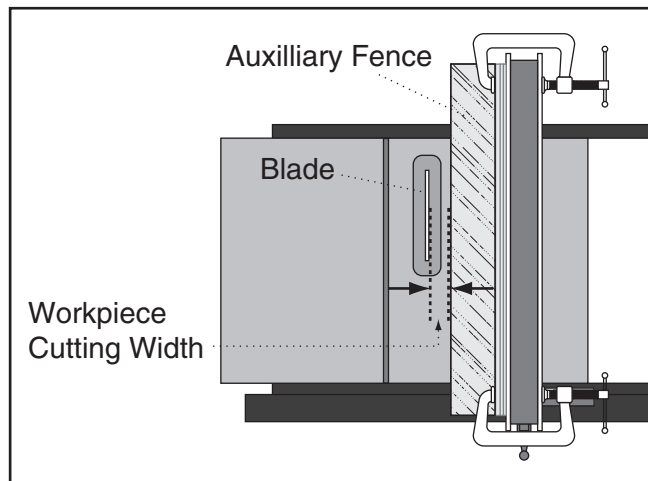

Figure 78. Adjusting ripping distance between blade and auxiliary fence.
1. Place the auxiliary fence on the table and clamp it to the fence at both ends, then adjust the distance between the auxiliary fence and the blade—this determines how wide the workpiece will be ripped (see **Figure 78**).